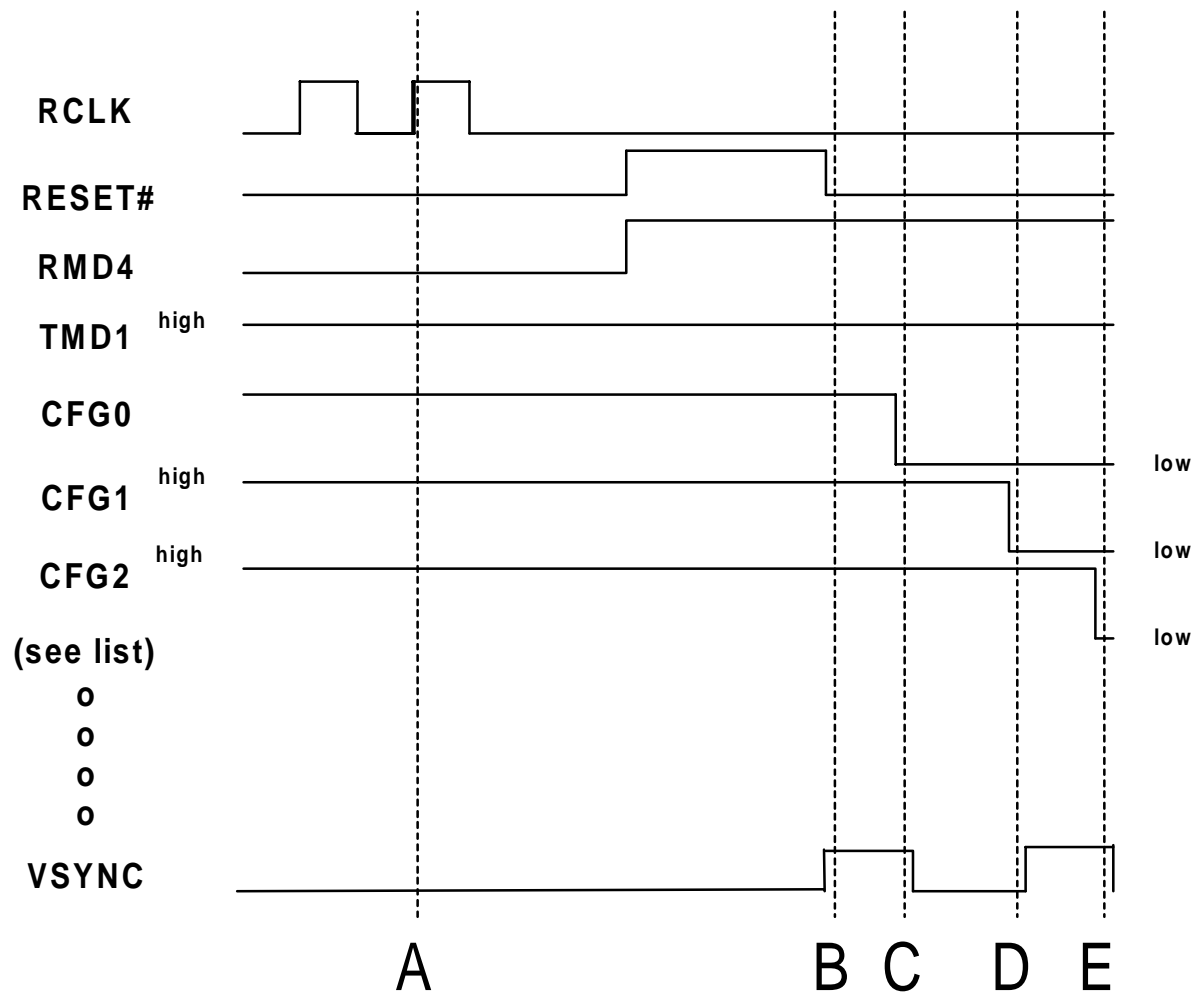

Figure 1: Timing Diagram for ICT Mode
- 3) Toggle the RCLK pin twice to high. This will start the test mode as shown in Figure 1, line A. Stop pulsing after the second pulse.
- 4) Pull RESET and RMD4 high. When the RESET goes low again, you are ready to test the individual pins (see line B in Figure 1).
- 5) Toggle the pins low one at a time starting with CFG0 (D18) as shown in Figure 1, lines C, D and E in the order given in Table 1. The VSYNC pin will toggle with each pin tested.